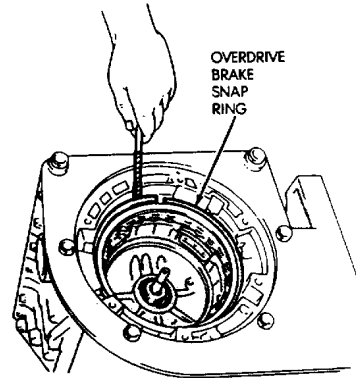

Fig. 21 Remove Overdrive Brake Snap Ring
(29) Remove overdrive brake snap ring (Fig. 21).